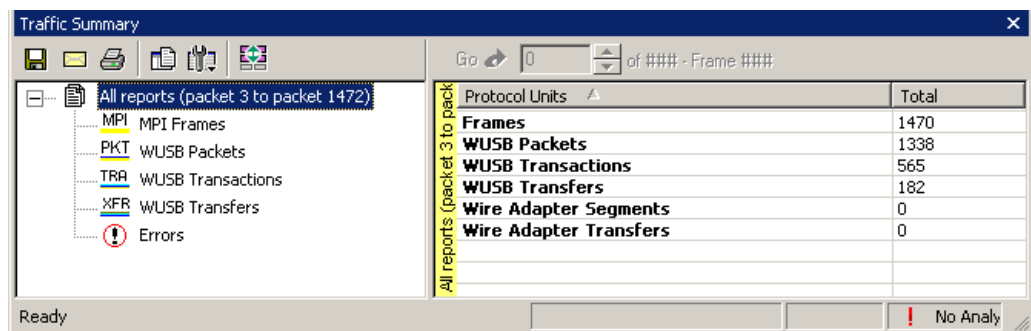

Figure 9.12 Traffic Summary for Three MPI Frames
Step 6 The Traffic Summary window now shows statistics for Frame 3 through Frame 1472 of the trace (Figure 9.12).